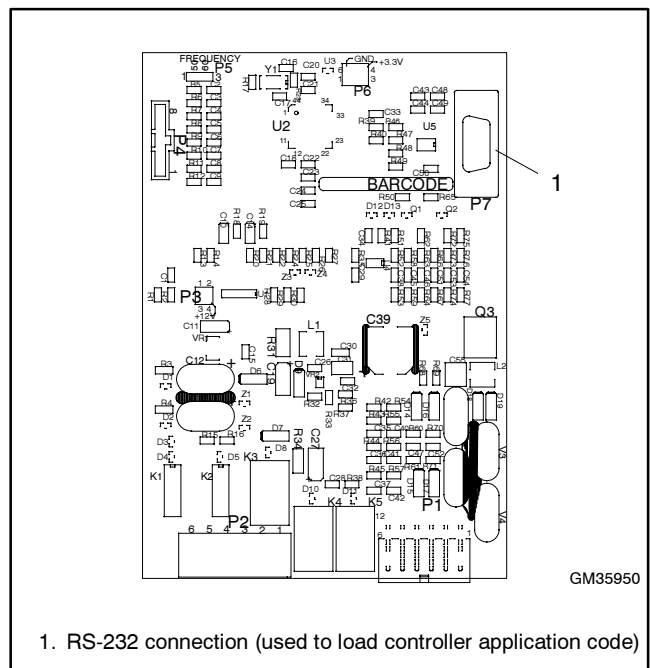

Figure 16 Series 500 ATS Controller RS-232 Connection
6. Connect one end of the null modem cable to the controller at the RS-232 connector. See Figure 16. Tighten the thumb screws on the connector to hold it securely in place.